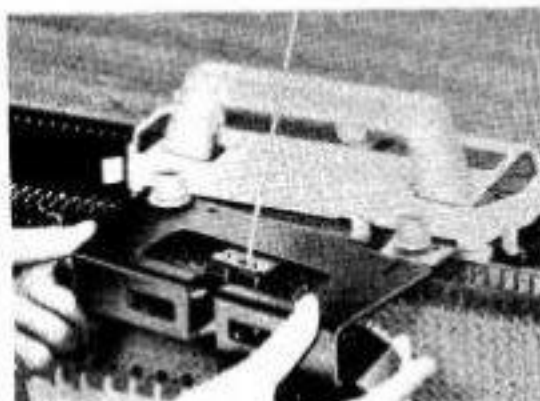

Fig.65
- Unscrew the two plastic nuts, and remove the fabric presser arm. (Fig.65)